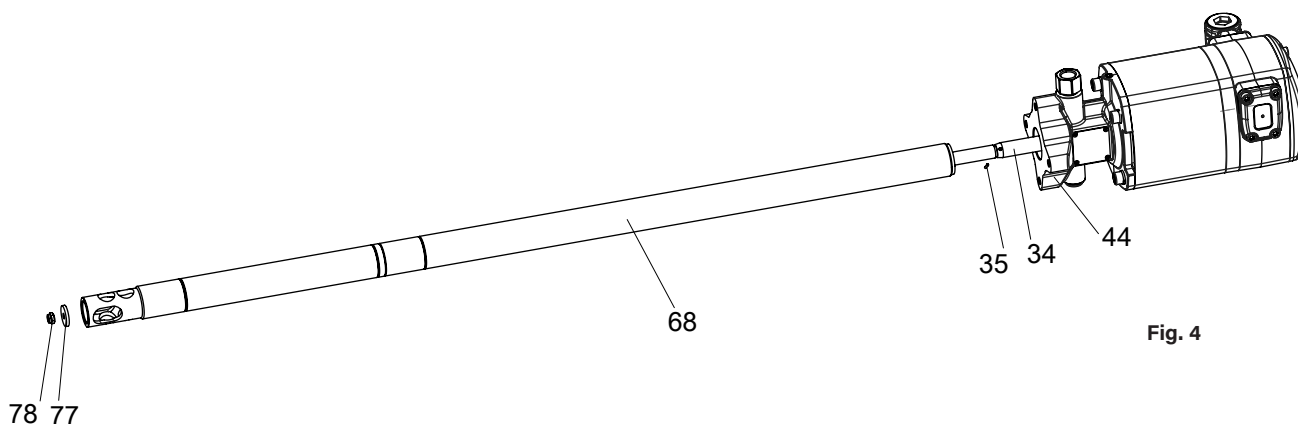

Fig. 4
1. Fix the pump horizontally in a vice (Fig.4). Tap with a hammer on the upper pipe (68) near the junction with the body (44) to break the thread sealant.
2. Unscrew the choke nut (78) and remove it (77).
4. Once unscrewed, pull the motor until you can see the pin (35) on the rod (34).